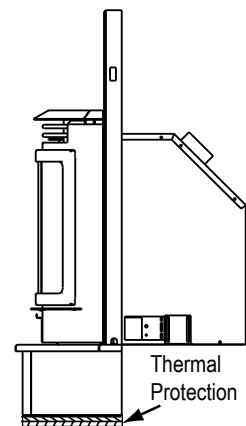

Figure 21.4
10. Thermal protection of 1-1/2 inches (38mm), "k" value of 0.49 and R value of 3.06 under the zero-clearance trim support (**Figure 21.4**).